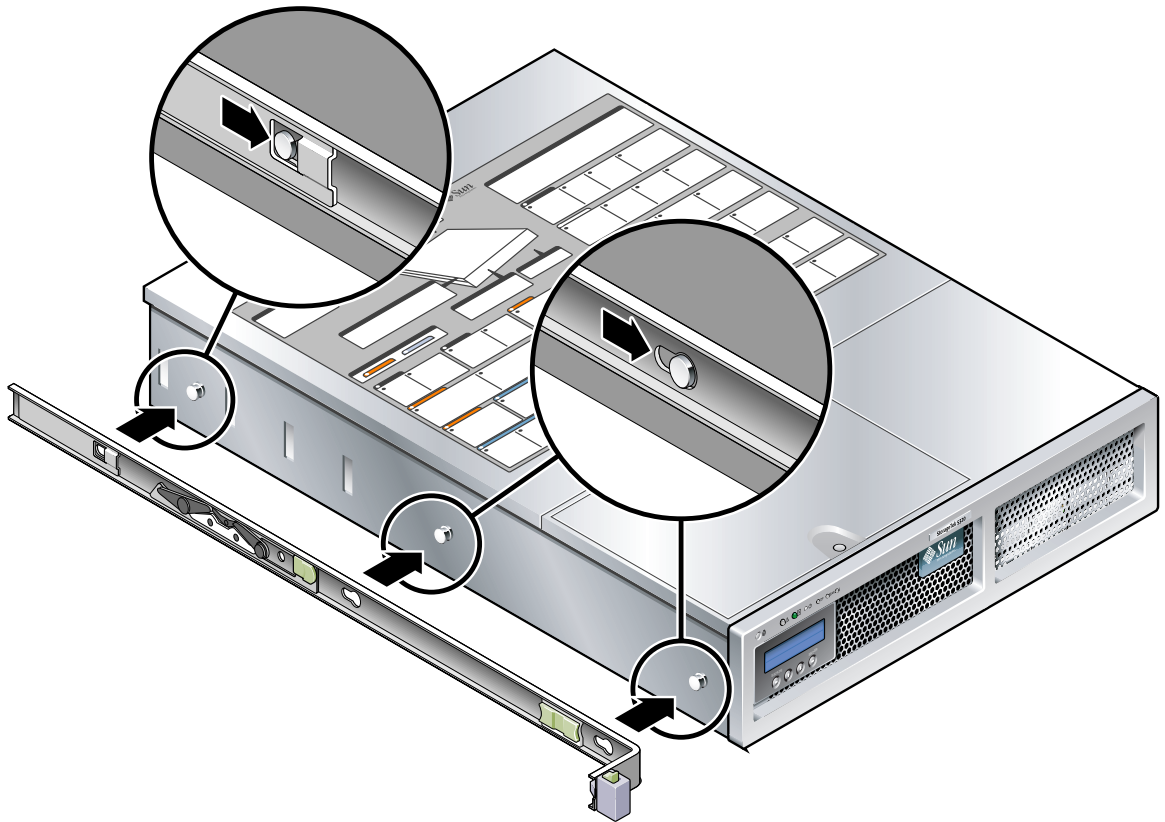

FIGURE 2-17 Attaching a Mounting Bracket to the Chassis
- a. Position the mounting bracket against the server chassis (FIGURE 2-17) so that the slide rail lock is at the front and the three keyed openings on the mounting bracket are aligned with the three locating pins on the side of the chassis.
- c. Verify that all three locating pins are trapped in the keyed openings and that the back locating pin has engaged the mounting bracket lock, as shown in the right side of FIGURE 2-17.